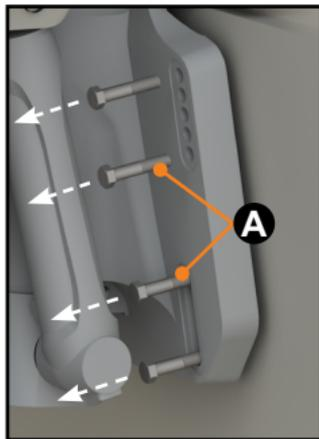

Fig. 1
1. Using the ¾" wrench and socket/ratchet, fully remove engine bolts (Fig. 1A) from the port or starboard side of the engine where the anchor will be installed. Starboard side shown (Fig. 1).